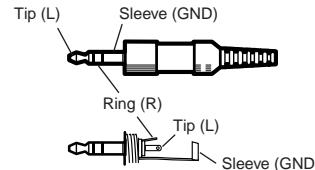
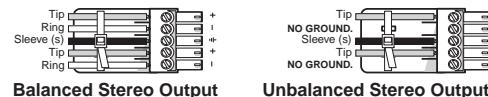

Figure 2-5 — 3.5 mm stereo audio plug
Figure 2-6 — Captive screw connector for wiring audio output
- ③ **Audio input connector** — Plug a 3.5 mm stereo plug into this jack for unbalanced audio input. Wire the plug as shown in figure 2-5. The number of inputs available varies with the switcher model.
NOTE When making connections to the switcher using existing audio cables, see figure 2-5. A stereo audio connector consists of a tip, ring and sleeve. The ring, tip, and sleeve wires are also shown on the audio output captive screw audio connector diagram, figure 2-6.
- ⑤ **Audio output connector** — Insert a 3.5 mm, 5-pole, one-piece captive screw audio connector into this connector. Wire the connector as shown in figure 2-6. Use the supplied tie-wrap to strap the audio cable to the extended tail of the connector.